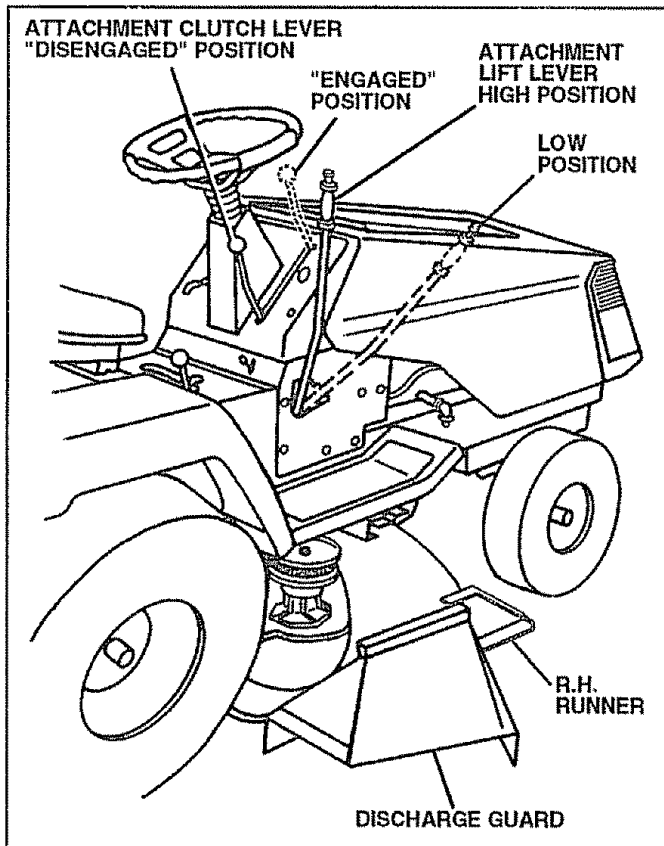

FIG. 8
## TO OPERATE MOWER (See Fig. 8)
- Use the runner on the right hand side of mower as a guide. The blade cuts approximately an inch outside the runner (See Fig. 8).